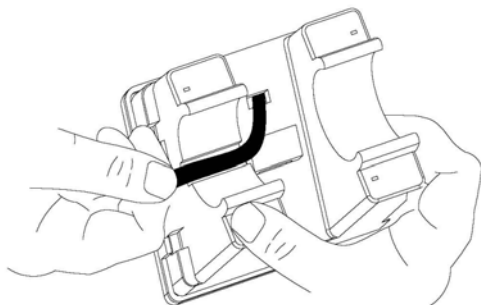

Figure 5
4. The solar panel's cable is connected to the input beside the battery compartment. (Figure 5,6,7)